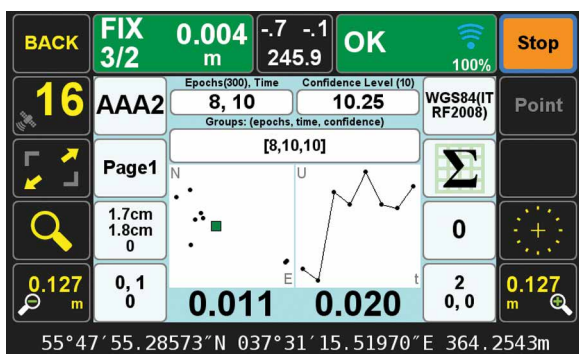
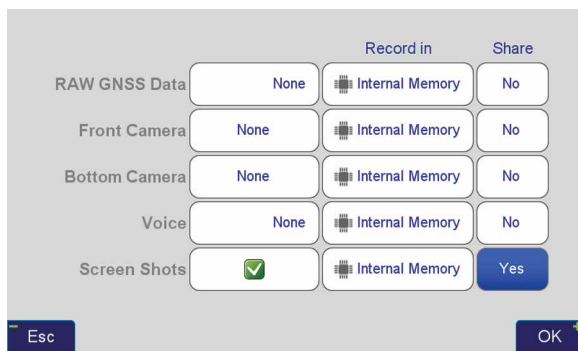

Figure 3 End of Step one
Figure 7 What to record screen
Figure 3 In the screenshot all GPS satellites have two peaks and all are spoofed. We were able to distinguish the spoofer signal and use the real satellite signals in correct position calculation as indicated by the "*" next to the CNT numbers.
- **Step One.** In Step One, fixed engines are reset and solutions are collected into groups. Each group contains all the epochs located within a specified radius (the CG value) from its center and new groups are created as necessary so that all epochs fall into at least one group. Each group has its own Epochs Counter, Confidence Level and Elapsed Time. A point may fall into more than one group. The groups are sorted from best to last by the sum of their Time and Confidence with the current best group being shown within [] and others within (). Step One continues until a group reaches the Confidence Level. (Figure 3)
Action Screen shows detailed information about each point collected. Screen shots can automatically be attached to each point and saved at the end of each collection (Figure 7). In **Verify with Automatic RTK Engines Resets** screen shots at the end of both Step One and Step Two are saved (Figures 3